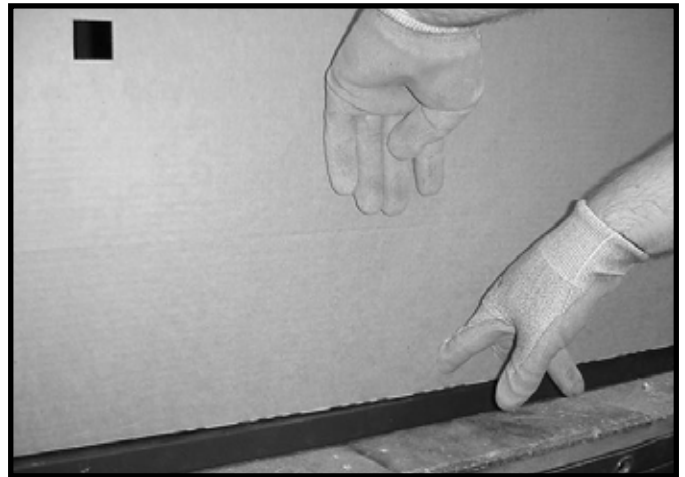

Figure 11.8 Prepare to Open Lower Access Panel
Step 6. To open lower access panel of splatter guard, place one hand above score line and place two fingers from other hand in the round holes on the front of the splatter guard. See Figure 11.8. Pull out and fold up the panel as shown in Figure 11.9. Disengage the tabs on left and right bottom of splatter guard and fit them into the square holes. The tabs are now inside the front of the splatter guard; carefully bend them down. See Figure 11.10.